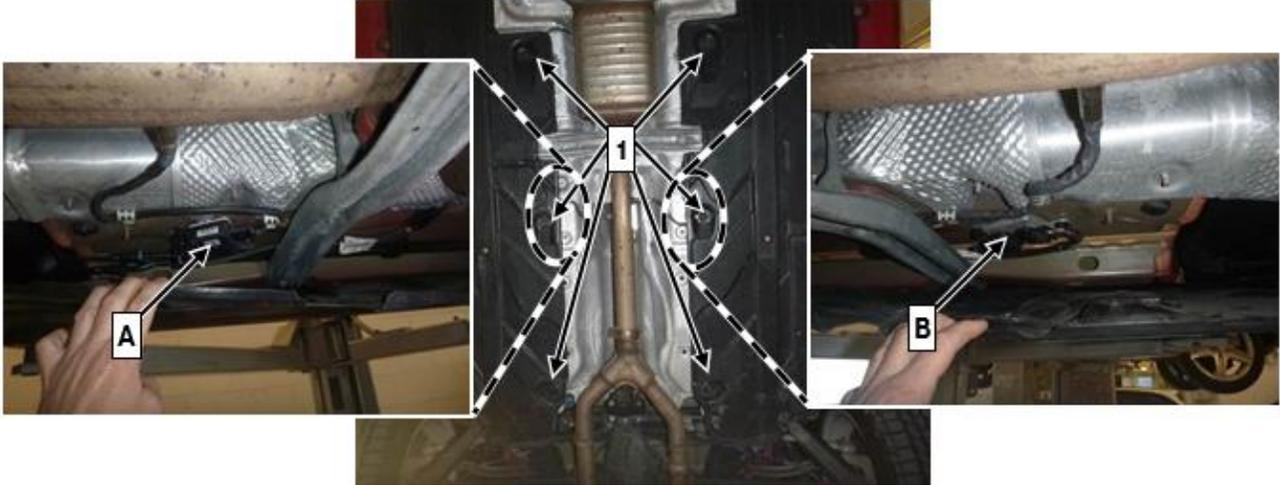

Figure 5
- Only loosen the rear underbody panelling (**right and left**) (**Figure 5**).
- i** Loosen inner plastic nuts (**1, Figure 5**) to do this.
7. Release the NOx sensor (**A, Figure 5**) and particulate sensor (**B, Figure 5**) control units downstream of the SCR on the underbody (**AR14.40-P-2038CD**). The NOx sensor and particulate sensor control units will be replaced.
- i** To do so, push the underfloor paneling downward slightly (**Figure 5**).